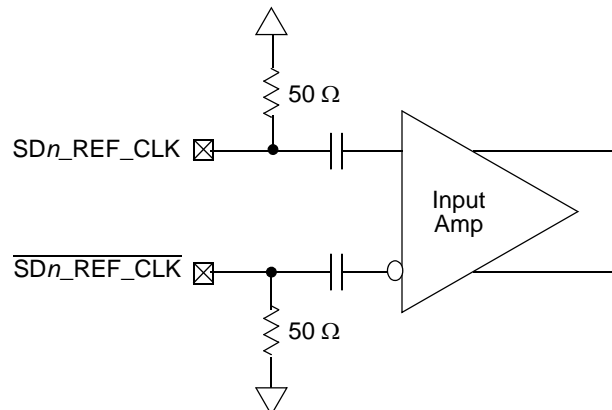

Figure 49. Receiver of SerDes Reference Clocks
Figure 49 shows a receiver reference diagram of the SerDes reference clocks.
- The $\overline{SDn_REF_CLK}$ and $\overline{SDn_REF_CLK}$ are internally AC-coupled differential inputs as shown in Figure 49. Each differential clock input ($\overline{SDn_REF_CLK}$ or $\overline{SDn_REF_CLK}$) has a 50 Ω termination to SGND_SRDSn (xcovvss) followed by on-chip AC-coupling.